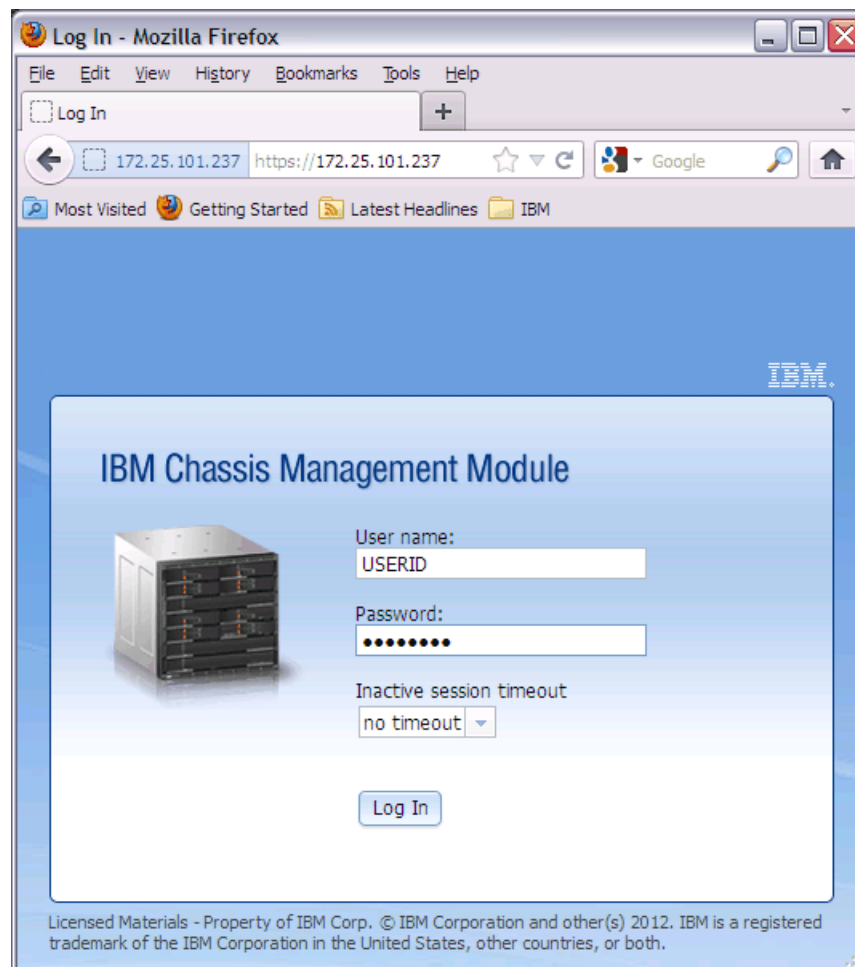

Figure 8-8 Log in to CMM
1. Point your web browser to the CMM IP address, and log in. See Figure 8-8.